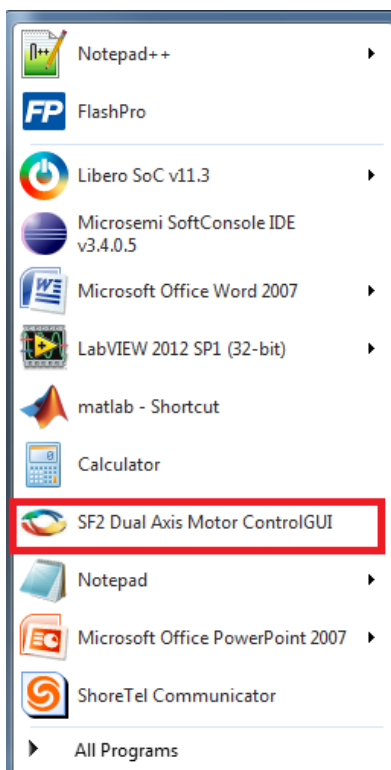

Figure 16 • Launching the SmartFusion2 Dual-Axis Motor Control GUI
1. After installing the GUI, go to **Start** menu and select **SF2 Dual Axis Motor ControlGUI** to open the GUI as shown in Figure 16.